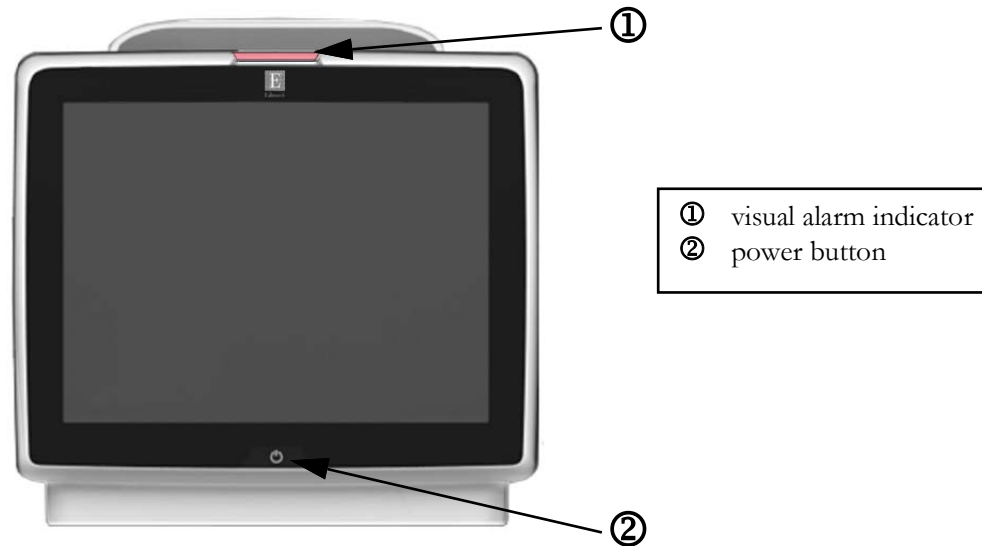

Figure 3-1 HemoSphere advanced monitor front view
To power the monitor off, touch the power button. See ② in Figure 3-1 on page 73. The following options will be displayed: